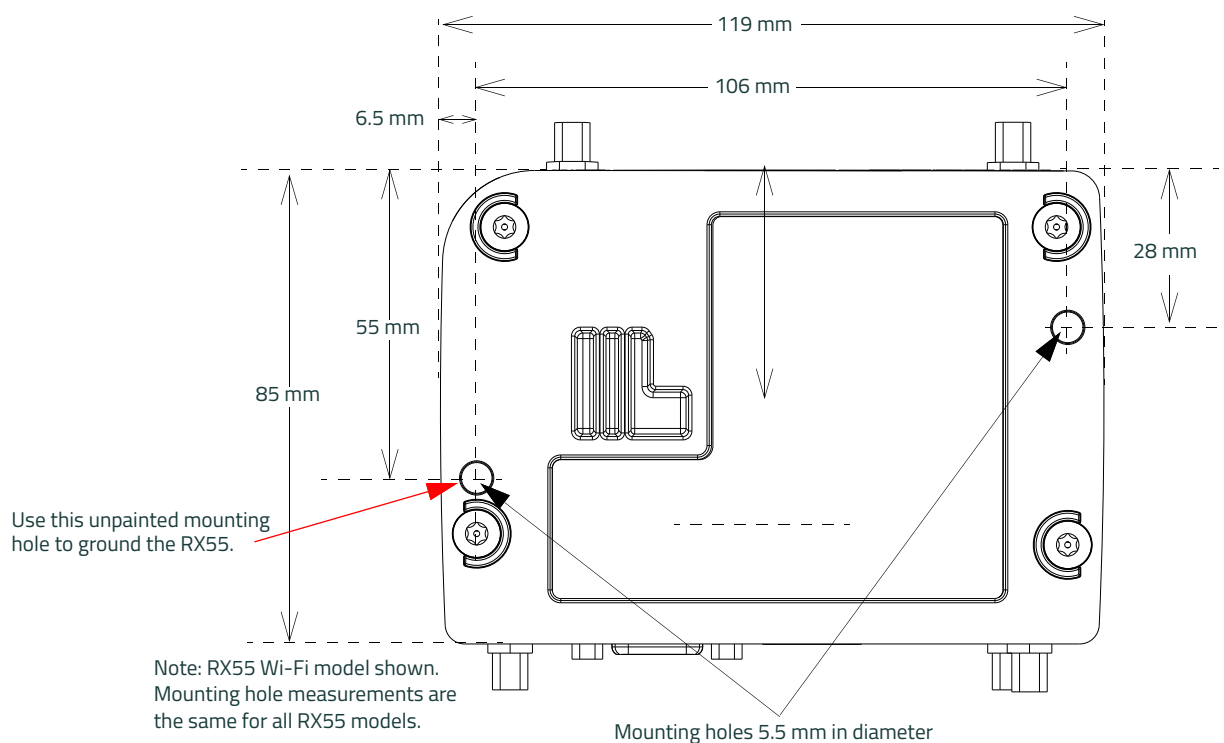

Figure 2-2: RX55 Router Mounting Hole Locations and Dimensions
- Connect one end of a short 18 AWG or larger gauge wire to the unpainted upper left mounting hole (see Figure 2-2) and connect the other end to the system ground reference or (if mounted in a vehicle) the vehicle chassis.